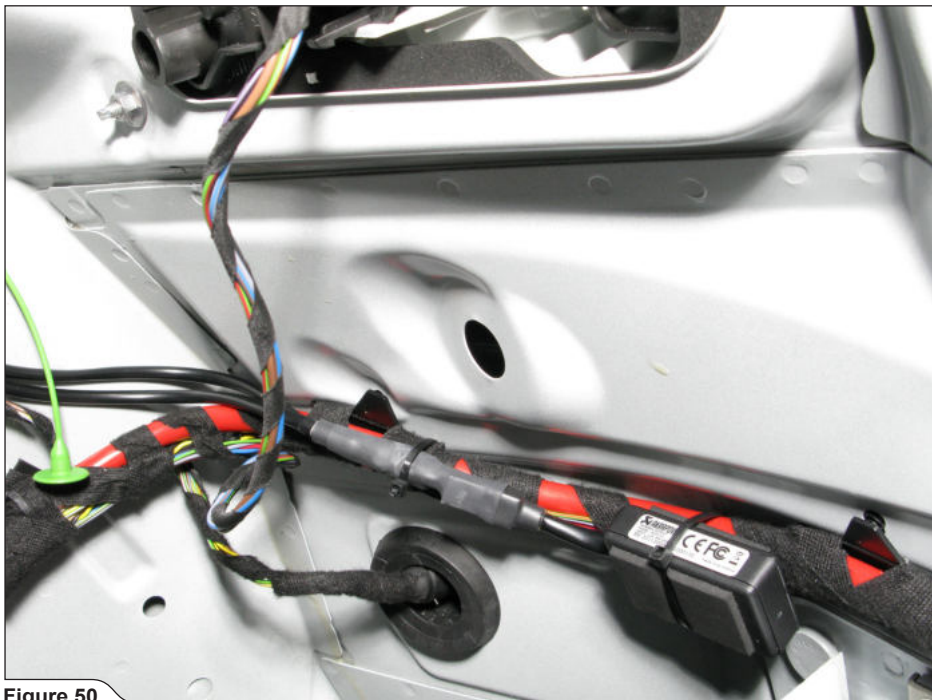

Figure 50
32. Connect the transmitter to the wiring harness and protect the connection using heat shrinkable insulation; secure the transmitter and wiring with tie wraps (Figure 50).